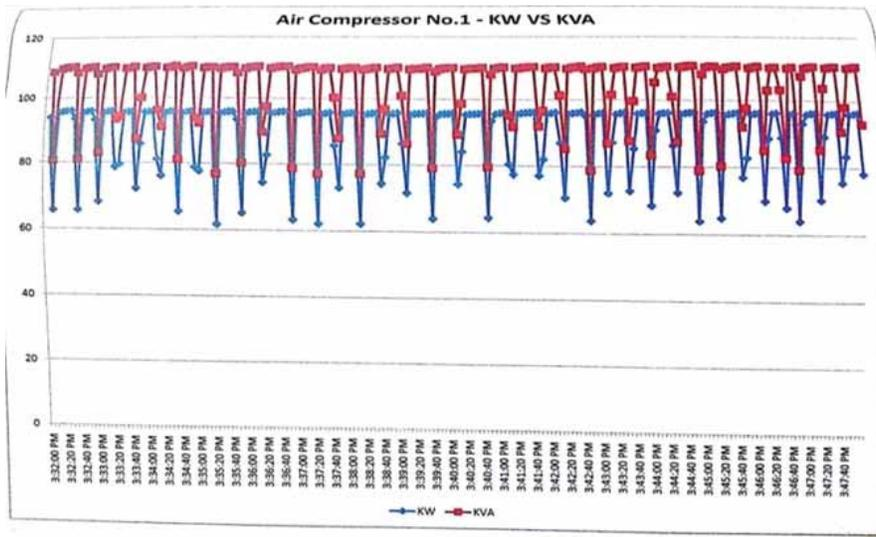

Figure 2: Chart shows compressor hunts every one minute due to load & unload due to artificial pressure drops inside
- Damping pulsations caused by the load & unload pressures in the compressor KW zigzag chart as described in the Fig 2 can be avoided.